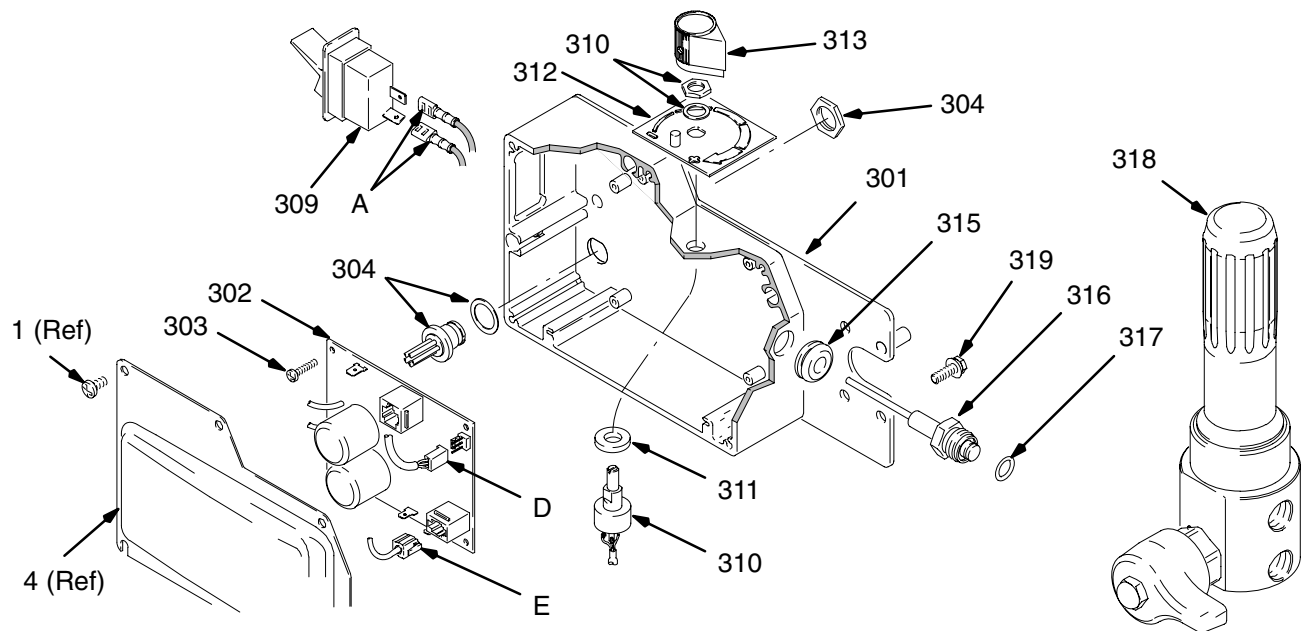

Fig. 15
2. Fig. 15. Remove five screws (307) and cover (322).
3. Disconnect two wires (A) from ON/OFF switch (309).
4. Press in on two retaining tabs on each side of ON/OFF switch (309) and remove switch.
3. Disconnect at control board (302):
- Lead (D) from potentiometer.
- Lead (E) from transducer.
- Two red leads (A) to ON/OFF switch (309).
4. Remove four screws (303), green ground wire, and control board (302).
1. Fig. 15. Install control board (302) with five screws (303).
2. Connect control board (302):
- Lead (E) to transducer.
- Lead (D) to potentiometer.
3. Install cover (322) with five screws (307).
3. Disconnect lead (E) from control board (302).
4. Remove three screws (319) and filter housing (318) from control plate (301). Carefully pull transducer connector through rubber grommet (315).
5. Remove pressure control transducer (318z) and packing o-ring (318aa) from filter housing (318).
1. Fig. 15. Install packing o-ring (317) and pressure control transducer (316) in filter housing (318). Torque to 30–35 ft-lb.
2. Carefully feed transducer connector through rubber grommet (315). Install fluid filter (318) on control plate (301) with three screws (319).
3. Connect lead (E) to control board (302).
4. Install cover (322) with five screws (307).
3. Disconnect lead (D) from control board (302).
4. Loosen set screws on potentiometer knob (313) and remove knob, shaft nut, lockwasher (310) and pressure adjust potentiometer (310).
5. Remove seal (311) from potentiometer (310).
1. Fig. 15. Install seal (311) on potentiometer (310).
2. Install potentiometer (310), shaft nut, lockwasher (310), and potentiometer knob (313).
- a. Turn potentiometer shaft (310) clockwise to internal stop. Assemble potentiometer knob (313) to strike pin on plate (312) and have bottom of knob clear plate by .040 to .060 in.
3. Connect lead (D) to control board (302).
1. Fig. 15. Remove five screws (307) and cover (322).